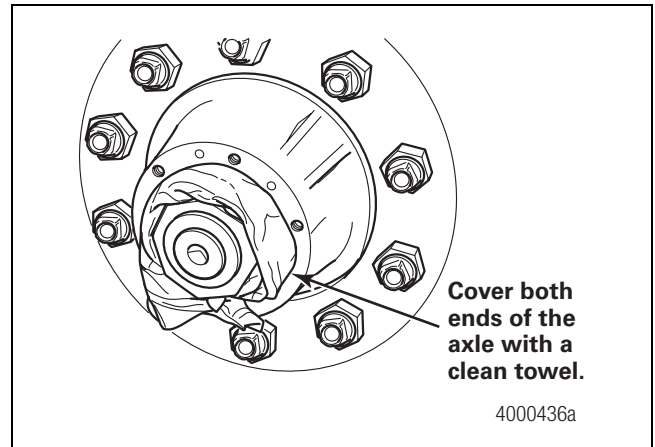

Figure 2
2. Cover the wheel ends at both ends of the axle with a clean towel. Figure 2.